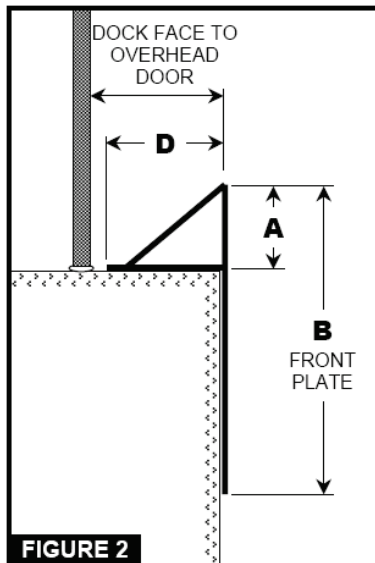

FIGURE 2
Step 6b. Ensure there is adequate installation space for the TOP PLATE (D) as it must be a minimum of 2" longer than the RISE (A) to offer maximum top impact protection. See Figure 2.
Step 6d. Ensure the front plate of the bumper is a minimum of 2" longer than the bumper height. See figure 2 & 3.